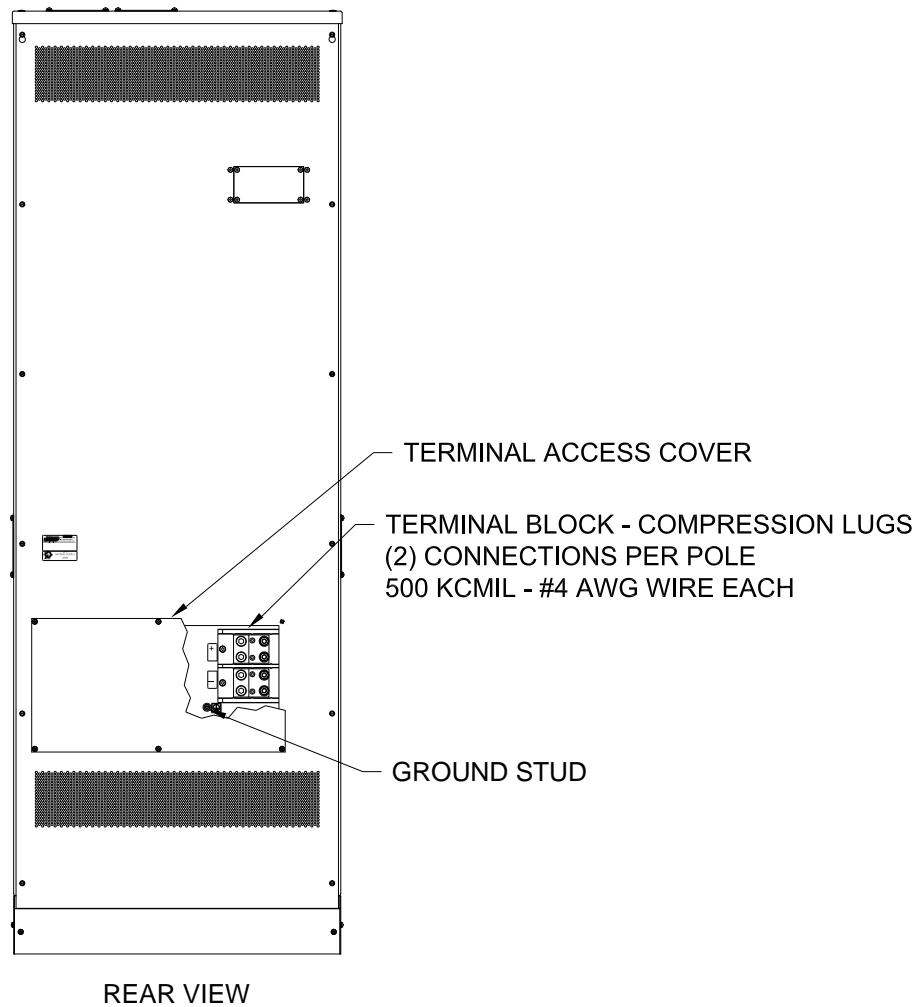

Figure 5 - Power Connections
6. Remove the front inner panel by loosening the top (2) two screws and removing the lower (10) ten screws. Lift and remove the panel. The panel is connected to the cabinet by a ground wire so it can be moved only a short distance
7. Remove the terminal access cover on the rear of the cabinet by removing the (6) six screws mounting it to the enclosure (see Figure 5).